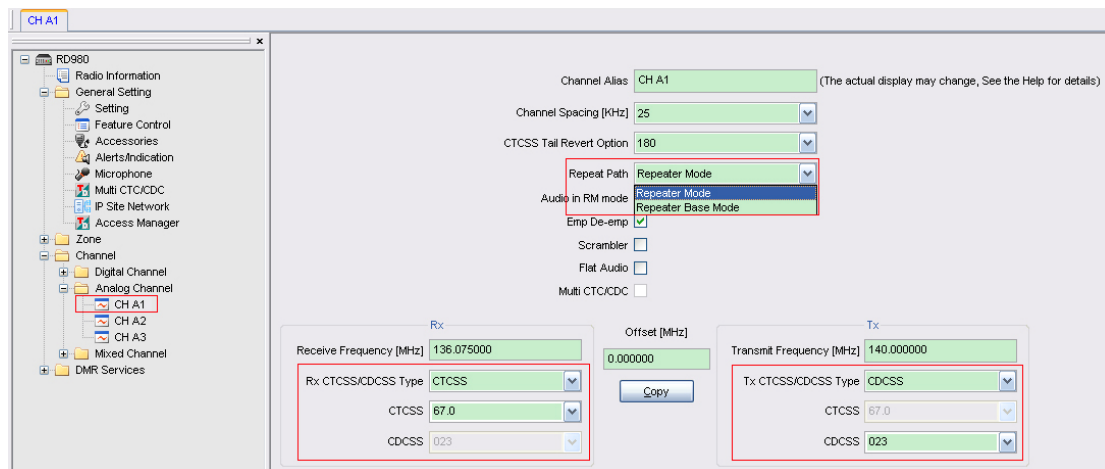

Figure 5.2-2 Analog Repeater Configuration 2
6) Go to “Channel -> Analog Channel” and select the channel which the repeater is working on. See Figure 5.2-2.
7) Set the option “Repeat Path” to “Repeater Mode”. When the option is set to “Repeater Base Mode”, the repeater shall operate in Direct mode. See Figure 5.2-2.
8) In “Rx” or “Tx” box, you can set CTCSS/CDCSS type. When the option is enabled, CTCSS/CDCSS match will be a must for the repeater to receive and transmit. See Figure 5.2-2.